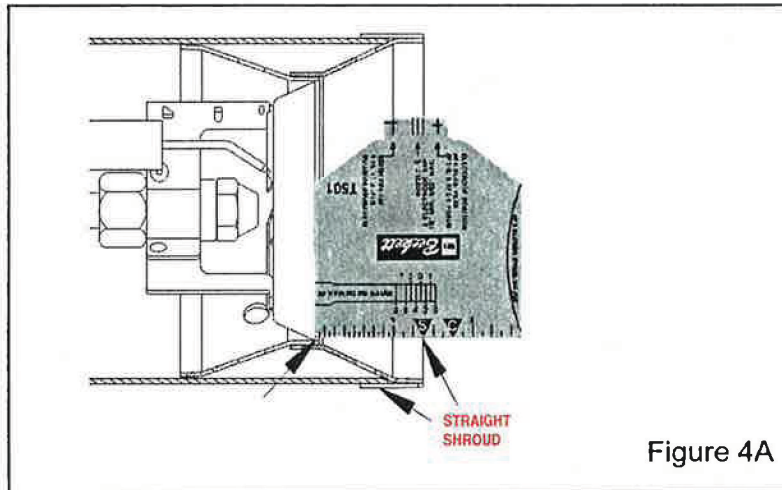

Figure 4A
Step 3. Using a Beckett T-501 gauge, hold it so that you can read the inch markings. Line up the edge of the gauge with the leading edge of the L1 or L2 head, and move the nozzle line assembly until the end of the air tube is at the 1-3/8" mark (S), if the tube has a straight shroud (Figure 4A) or to the 1-3/4" (C) mark, if the air tube has a conic shroud (Figure 4B).